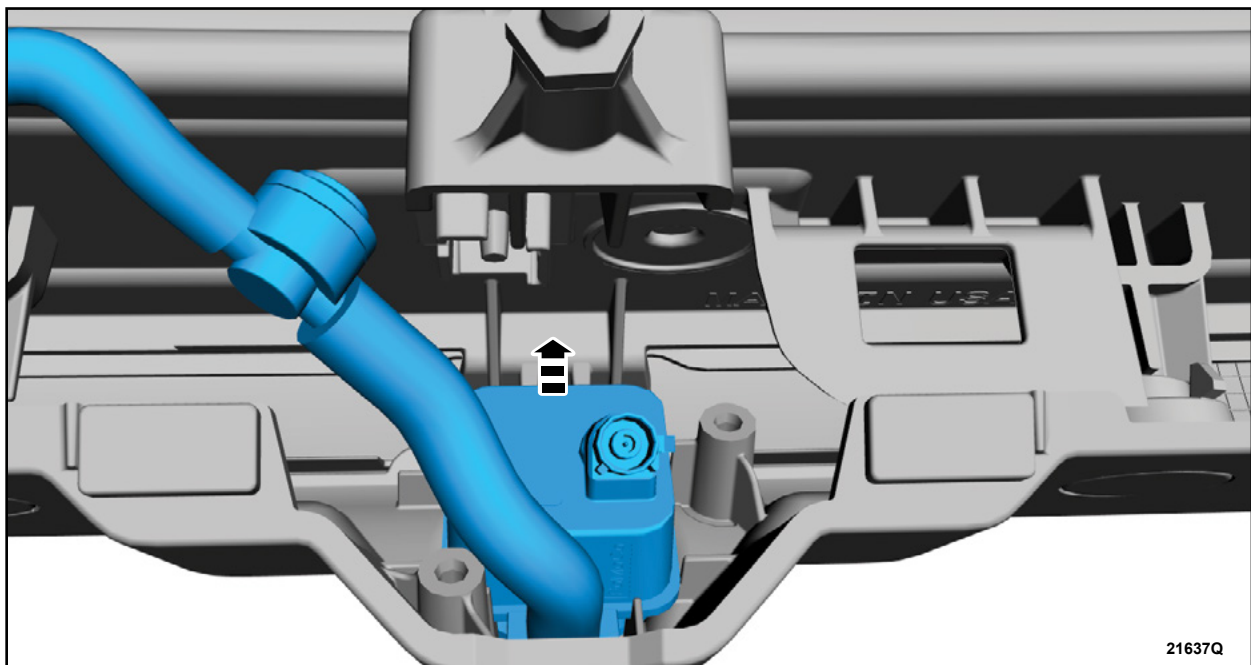

FIGURE 12
6. Remove the rear camera and washer tube as an assembly. See Figure 12.